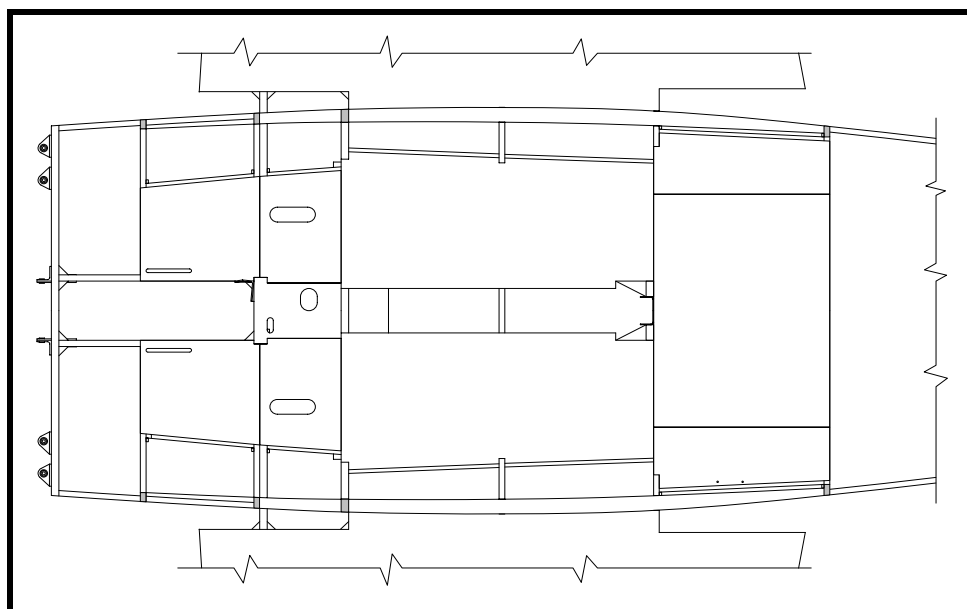

Figure 25
- ❑ Install the gluing strips for the inside cockpit side walls between Sta. 2 and 3 on each side of the aircraft. See Figure 25.
- ❑ Install the gluing strips for the inside cockpit side walls between Sta. 3 and 4 on each side of the aircraft. See Figure 25.
- ❑ Install the gluing strips for the inside cockpit side walls between Sta. 4 and 5 on each side of the aircraft. See Figure 25.
- ❑ Install the gluing strips for the inside cockpit side walls between Sta. 5 and 6 on each side of the aircraft. See Figure 25.
- ❑ Install the gluing strips for the inside cockpit side walls between Sta. 6 and 7 on each side of the aircraft. See Figure 25.